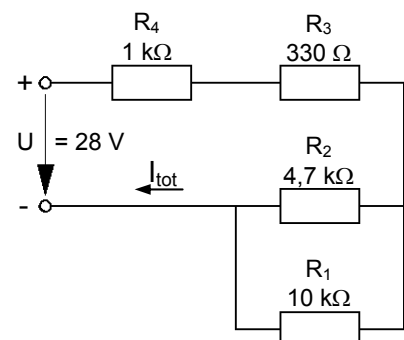

Fig. 3.9.2.1: Resistor network 1
- Assemble the circuit of Fig. 3.9.2.1 on the Electronic Circuits Board. Ensure that it will be possible to open the circuit at the locations required for current measurements (assembly notes will be found in section 3.9.4).